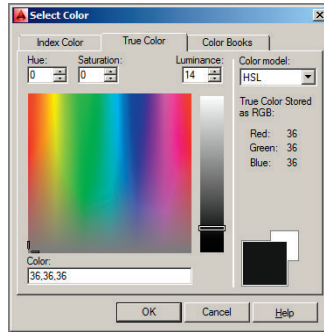

FIGURE 15.30 Selecting a very dark table cell background color
10. Click the words *Room Schedule* to select merged cell ABC1. Open the Table Cell Background Color drop-down in the Cell Styles panel, and choose More Colors. Select the True Color tab in the Select Color dialog box that appears. Type **36,36,36** in the Color text box and press Tab (see Figure 15.30). Click OK.